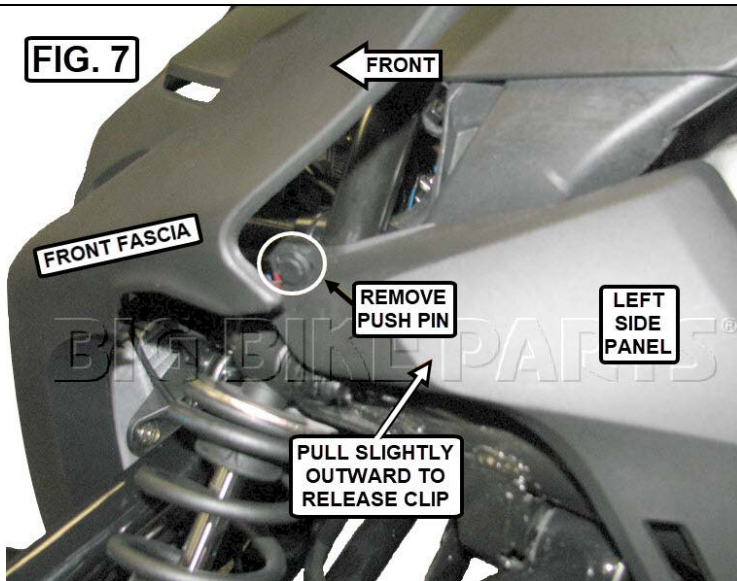

FIG. 8
11. REMOVE THE SUB-HARNESS FROM THE KIT AND DETERMINE THE LEFT AND RIGHT CONNECTORS (**FIG. 9**).CONNECT THE SUPPLIED SUB-HARNESS TO THE TAIL LIGHT HARNESSES ACCORDING TO **FIG. 8 & FIG. 9**.